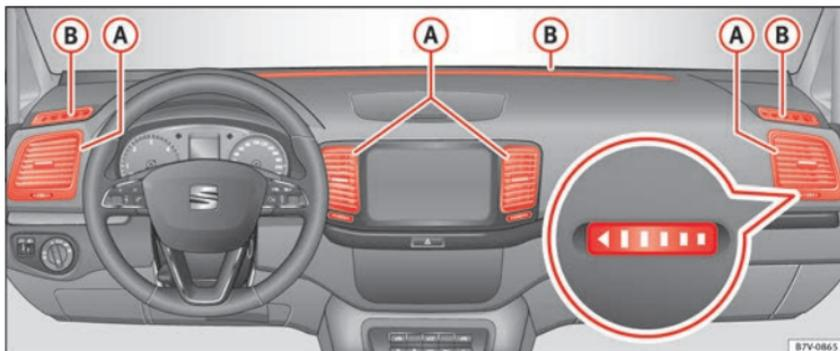

Fig. 196 Air vents in the dash panel
Never close the air vents » **Fig. 196 (A)** completely to ensure heating, cooling and ventilation inside the vehicle.